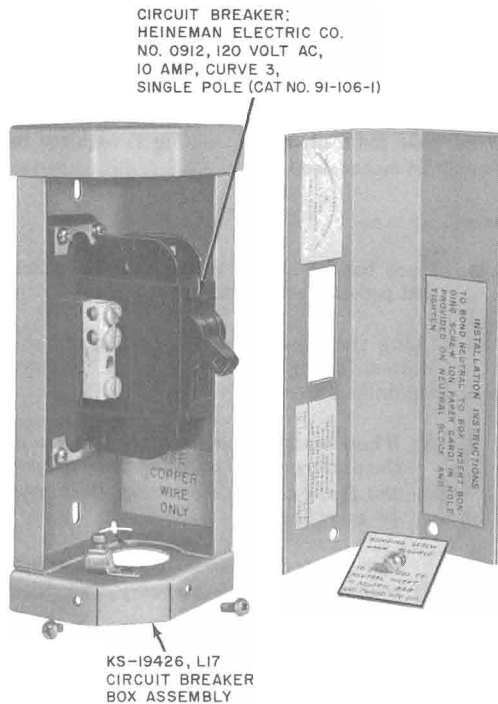

Fig. 12—Circuit Breaker Box with Circuit Breaker Installed
2.22 A KS-19426, List 17 circuit breaker enclosure (Fig. 12), for mounting a Heineman Electric Co. No. 0912, 15 amp Cat #91-106-1 single pole circuit breaker (obtained locally) mounts in the lower section of the post when housings are post-mounted. Access is by removing the post cover assembly.